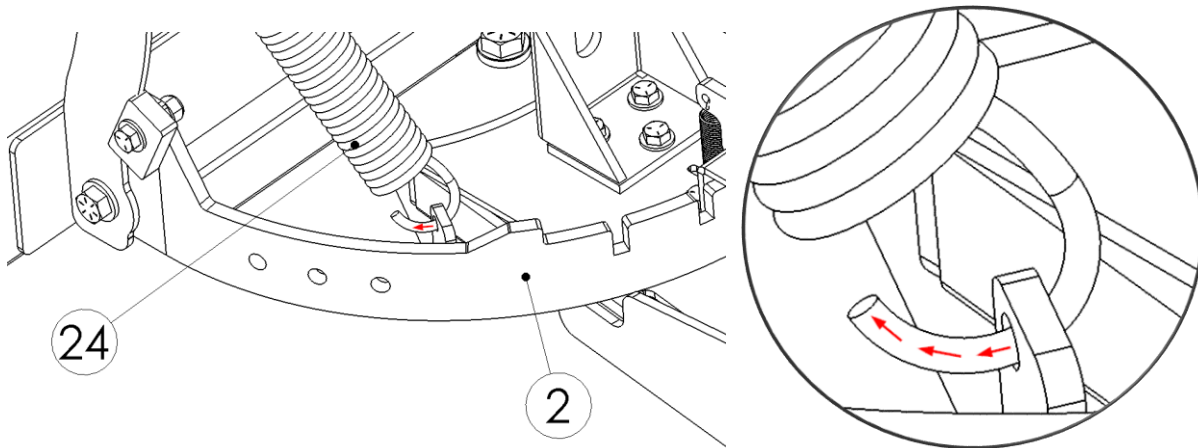

Figure 9
- 9) Attach the 10" Springs to the Swivel Plate with the hook pointed toward the blade as shown in Figure 9.